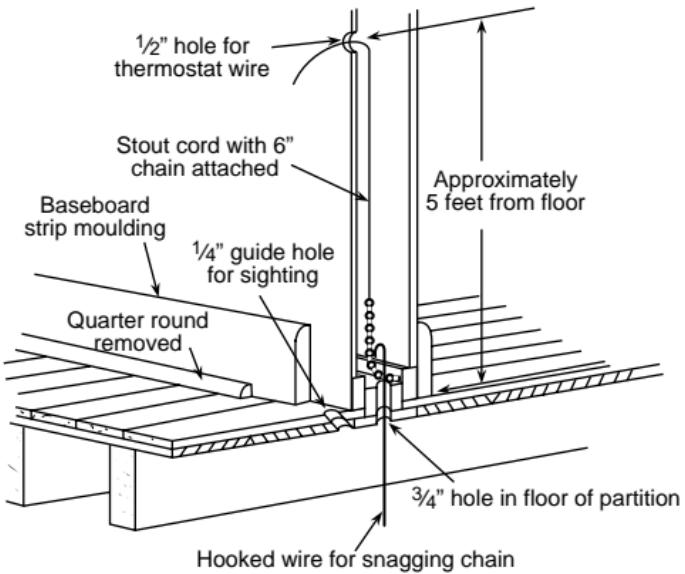

Figure 1. Routing thermostat wires
1. Probe for obstructions in partition before drilling $\frac{1}{2}$ " hole in wall at selected location. Take up quarter round and drill a small guide hole for sighting (see fig. 1). From basement, drill $\frac{3}{4}$ " hole in partition floor next to guide hole. In buildings without basements, drill $\frac{1}{2}$ " hole through ceiling and into partition from above (see fig. 1).